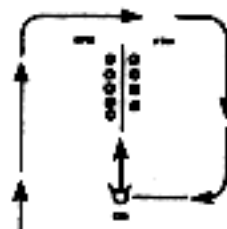

Figure 5-16. Passive Patrol Base.
(d) Clearing team clears and secures patrol base using the zig-zag technique as depicted in figure 5-16.
(3) Passive Patrol Base (Squad).
- (e) Alpha and Bravo teams sit back to back facing outward. (Figure 5-16), ensuring that at least one individual per team is alert and providing security.